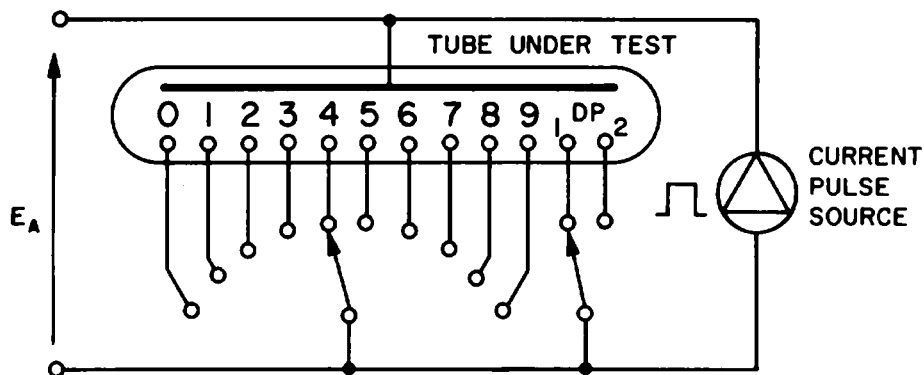

Figure 6. TEST CIRCUIT
Test Circuit	Figure 6 (Note 7)
3. In a typical strobed/time sharing application, (Figure 6), "same-numeral" cathodes (i.e., all 1's, all 2's, etc.) of all tubes are connected in parallel and the anodes are strobed sequentially. The rapid strobing is above the flicker rate and visual indication is normal. However, since the "on" duty cycle is not 100%, a higher than normal current is used to compensate for loss of brightness. The (B-5855) NIXIE tubes are constructed and specified for these peak current conditions and no extraneous glow is exhibited during this operation.